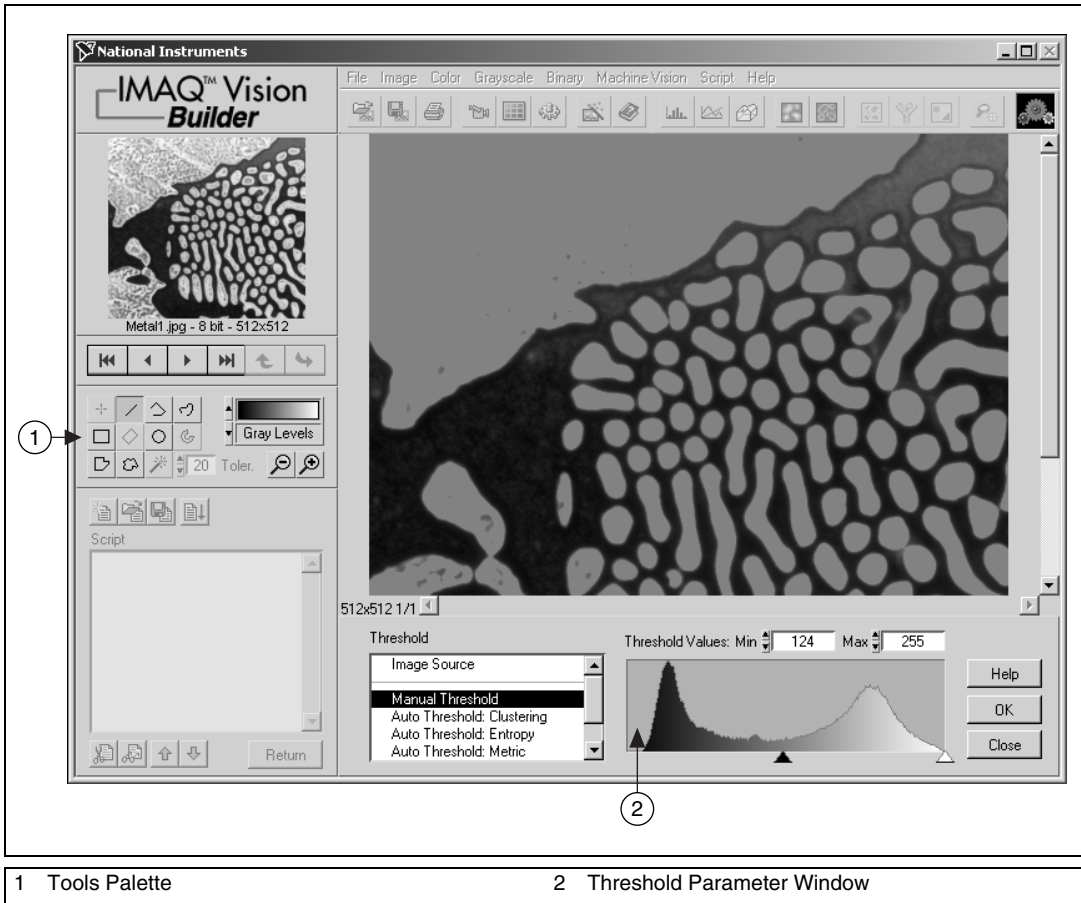

Figure 2-3. Thresholding an Image
- Parameter window—Displays parameters that you can set for an image processing function. Each IMAQ Vision function available through the menus has a parameter window in which you set the parameters for that function. See Figure 2-3, *Thresholding an Image*, to view an example of the threshold Parameter window.
7. Select **Grayscale»Threshold**. The Threshold parameter window appears in the lower right corner of the IMAQ Vision Builder window, as shown in Figure 2-3.